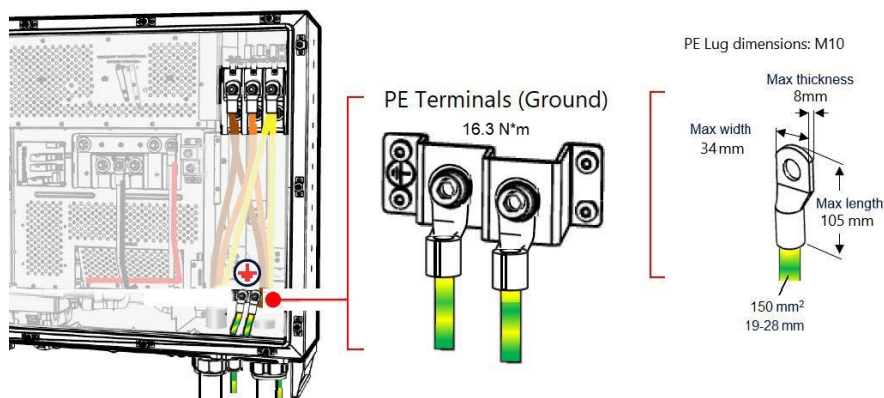

Figure 26: Connecting PE (Ground) to the Inverter
3. Strip the required length of insulation from the PE wire, crimp a lug and connect the wire to a PE terminal and tighten the screw to 16.3 N*m (see *Figure 26*).